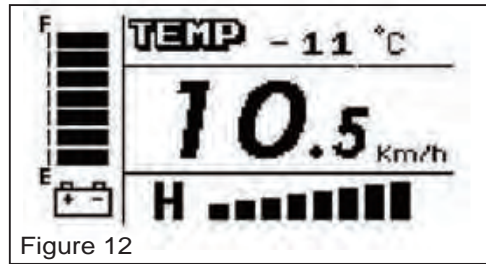

Figure 12
**[TEMP] Temperature mode (Figure 12) :**